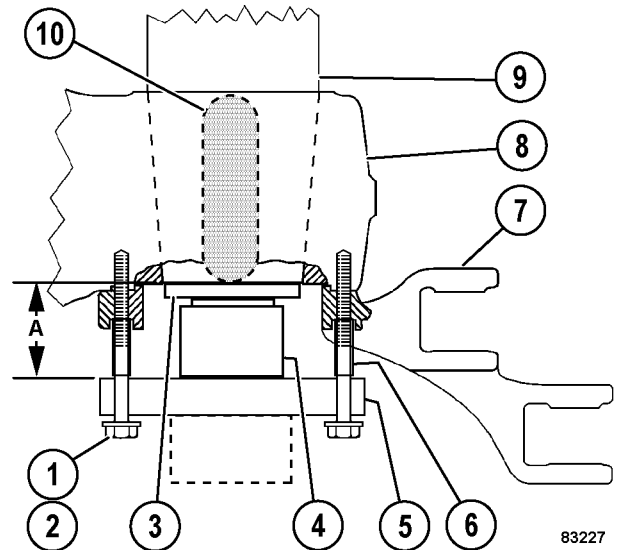

FIGURE 3-5. PULLER TOOL WITH RAM
NOTE: Older pusher tools (5, Figure 3-5) may have been made with a round tube (shown as a dotted line) welded on one side. The tool can be installed upside down and used with a hydraulic ram as shown.
Refer to Section M8, Special Tools, for dimensions for fabricating the spindle pusher tool and spacers (6, Figure 3-5). Special cap screws and washers are also required.
16. Locate 16 cap screws (1, Figure 3-5) and washers (2) as specified below:
18. Install pusher tool (5) as shown in Figure 3-5 using the only three cap screws (1), three washers (2) and three spacers (6). The three cap screws must be evenly spaced. Tighten the three cap screws to **68 N·m (50 ft lb)**.
21. Start applying pressure to the hydraulic ram to separate the parts. If the specified maximum force of the hydraulic ram is reached and the tapered parts have not separated, slowly and uniformly apply heat to the spindle as shown (10, Figure 3-5). Heat must be applied in two locations 180 degrees apart. Allow heat to penetrate into the spindle. Reapply heat as required. **Do not exceed 454 °C (850 °F) anywhere on the spindle.**